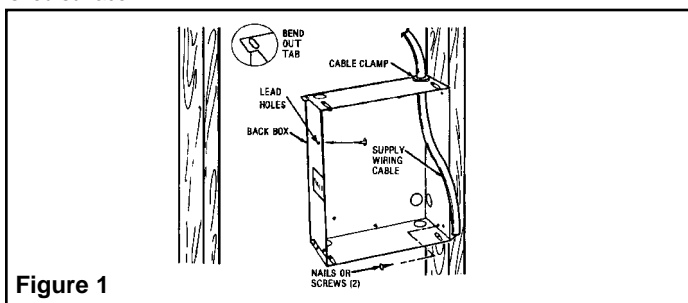

Figure 1
1. Determine which side of the back box is to be mounted against a stud and bend the tabs at the rear corners out 90 degrees so that the back box will be square with the stud after installation. (See Figure 1).
3. Position back box against side of studs and secure using nails or screws as shown in Figure 1.
**NOTE:** Lead holes for a #8 sheet metal screw have been provided in the sides of the back box.. After the finished wall or ceiling has been put up, drive a # 8(m4) sheet metal screw (recommended 1" long) through the side of the box not mounted to the stud. This will prevent the back box from pulling out when installing the heater assembly. (See Figure 1)